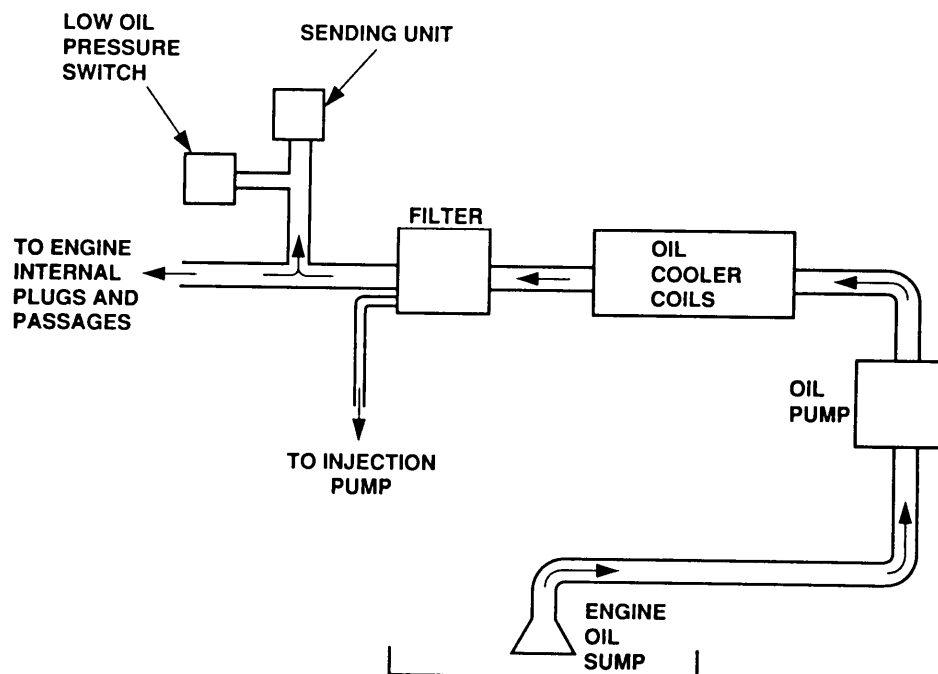

Figure 1-7. Lubrication System Functional Diagram.
**1.14.2.5.2 Lubrication System.** The lubrication system (figure 1-7) provides lubrication and cooling to the engine's parts. The oil sump has an 8.5 quart (8.04 liter)